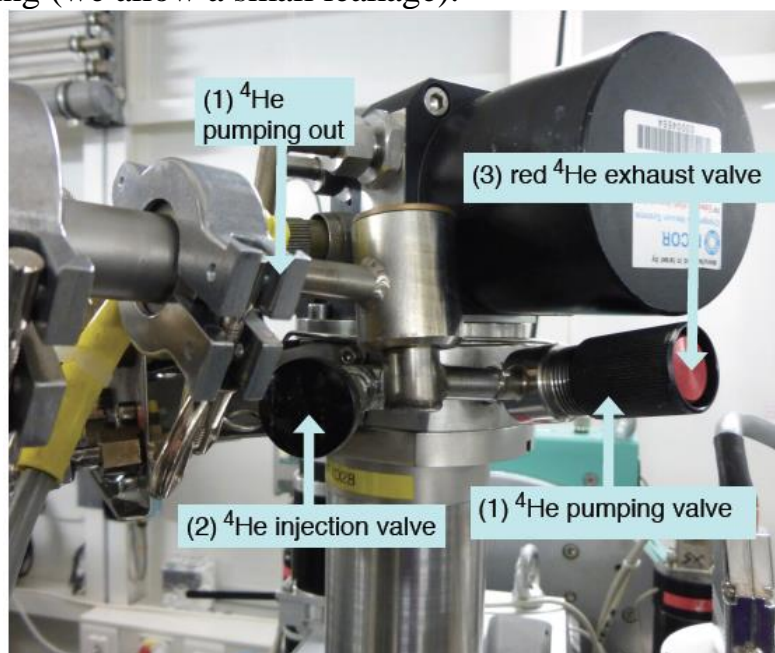

Fig. 3 ^4He injection line scheme.
- Be sure that the injection valve of the ^4He is closed on the cryostat, Fig.3(2). Start the circulation of the ^4He gas; this will purge the injection line and the carbon trap. Continue this purge for at least 1 minute, with the ^4He pressure of a 1-2 bar (as determined by the ^4He regulator on the bottle).
It is not necessary to pump on the Joule-Thomson evaporation stage, and we leave the He pumping valve close (Fig.3(1)). The gas flows through the red evacuation valve which is positioned in the bottom of the handwheel. In this configuration we can work between 4.3 K and 300 K.
5. Place the carbon trap back inside the liquid nitrogen dewar. Wait for 1 minute and then retighten the injection line on the cryostat. Then open the ^4He injection valve, Fig.3(2).
- Release the pressure in the 4He bottle's regulator. When the pressure is below few bars, you can safely close the 4He injection valve (Fig.3(2)) and the 4He pump valve (Fig3(3)). Afterwards you may disconnect the 4He injection line from the displacer.